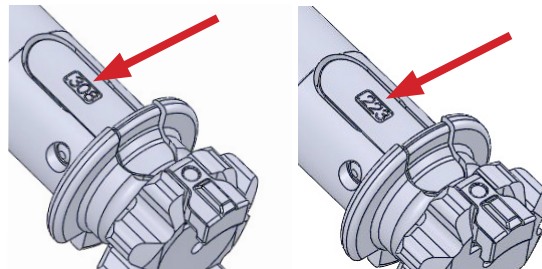

Fig. a-5
6. Ensure the bolt head matches the chambering of the barrel. (Fig. a-5)